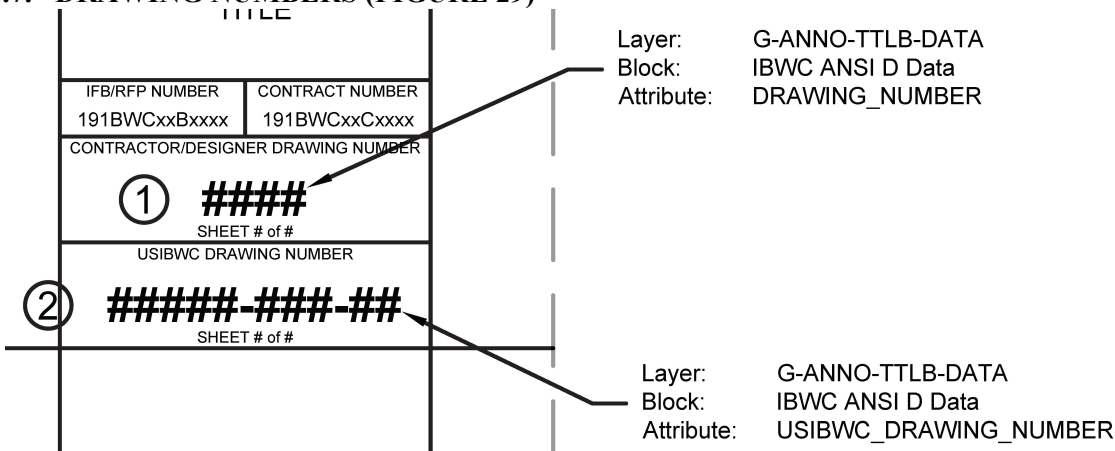

Figure 29-USIBWC Border: Drawing Numbers
4.7. DRAWING NUMBERS (FIGURE 29)